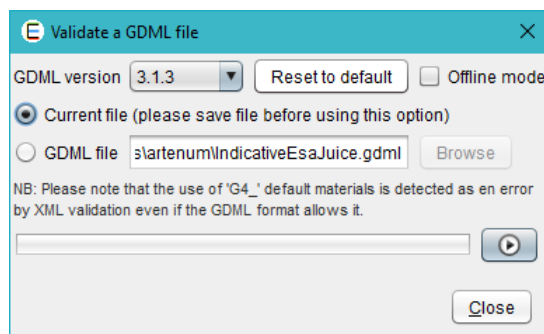

Figure 28: GDML file validity check tool
- *GDML File validity check*: checks the syntax validity of a GDML file against the GDML file format specifications. It is possible to check the current file (if saved beforehand) or any file from the system. The Figure 28 shows the tool appearance.